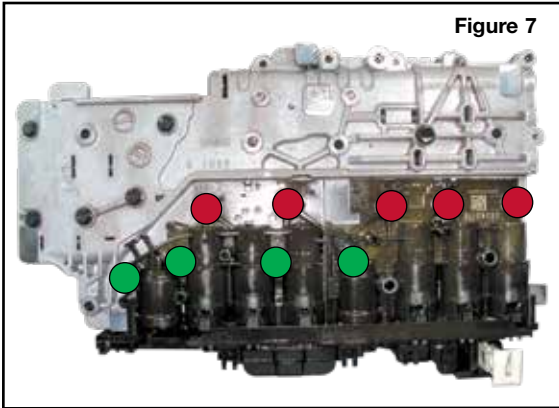

Figure 7
- Remove the four 10mm head and five 7mm head bolts (**Figure 7**). Remove the TEHCM and set aside for inspection, testing and cleaning.
- c. Install the four 10mm head and five 7mm head bolts and *hand-tighten only* (Fig. 7).